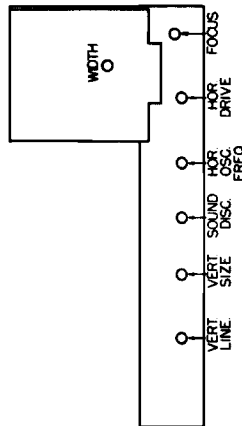
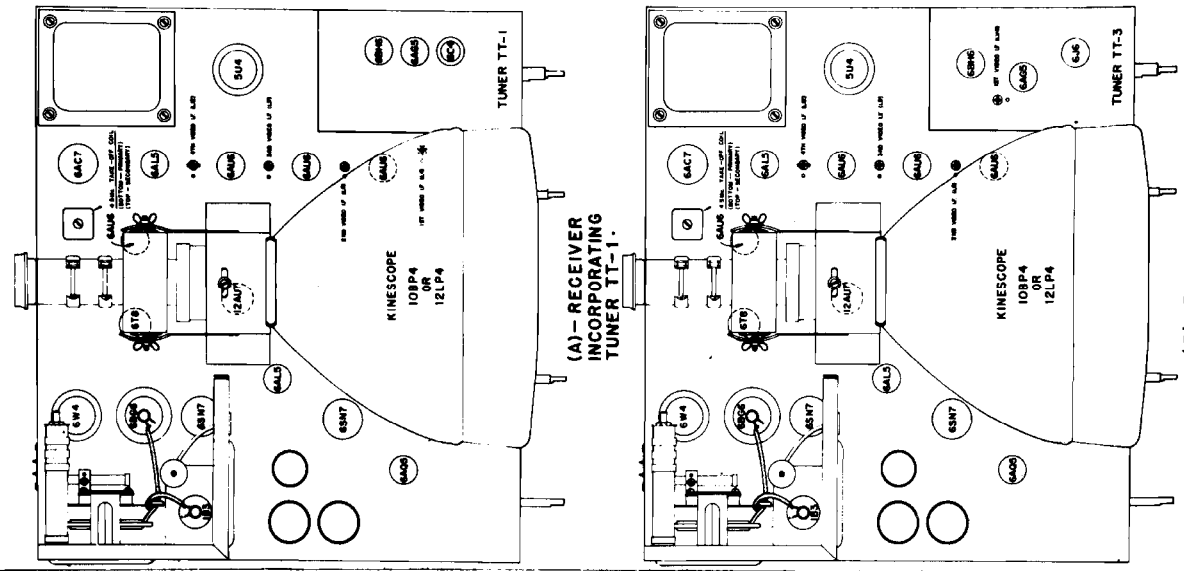
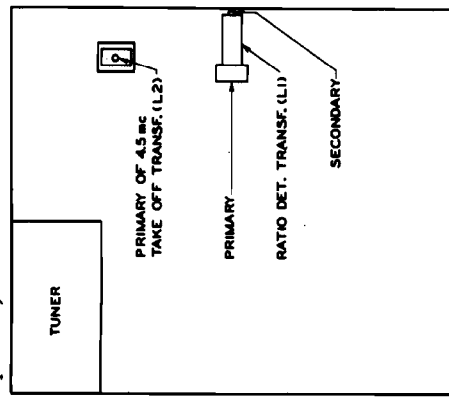

FIG. 2- PRE-SET CONTROLS
FIG. 3 - TOP VIEW OF CHASSIS
FIG. 5 - BOTTOM VIEW SHOWING ALIGNMENT POINTS FOR L1 AND PRIMARY OF L2 SERVICE NOTES
There are six so-called pre-set controls at the rear of the chassis as indicated in Fig. 2. They are all screw driver adjustments. The SOUND DISC. is the alignment screw for the secondary of the ratio detector transformer L1, and is not considered a pre-set control.
Picture I-F Alignment (Fig. 3)
Set the generator at 25.6 mc, amplitude-modulated at approximately 400 cycles, and adjust the first and third video i-f coils for maximum response. For those receivers employing tuner TT-1, the first video i-f coil is L4 as indicated in Fig. 3(A). When tuner TT-3 is used, the first video i-f coil is LV-5 and is incorporated in the tuner and not the receiver proper, as shown in Fig. 3(B). Reset the generator to 23.4 mc, still amplitude-modulated, and tune the second and fourth video i-f coils, L6 and L12 respectively, for maximum response. Repeat the above process for fine adjustments of settings.
5. Next tune the secondary of L1; this adjustment, shown in Fig. 5, is also shown in Fig. 2 and indicated as SOUND DISC. Then adjust the primary L2, the 4.5-mc takeoff transformer; see Fig. 5. Next adjust the secondary of L2, shown in Fig. 3. Decrease the signal output from the generator to the minimum required to give a readable deflection on the meter and then repeat the sound alignment process.
After the alignment is complete, remove the generators and meters. Tune in a station. Turn up the contrast control until a buzz is heard. Adjust the secondary of the detector transformer (see Figs. 2 and 5) for minimum buzz.